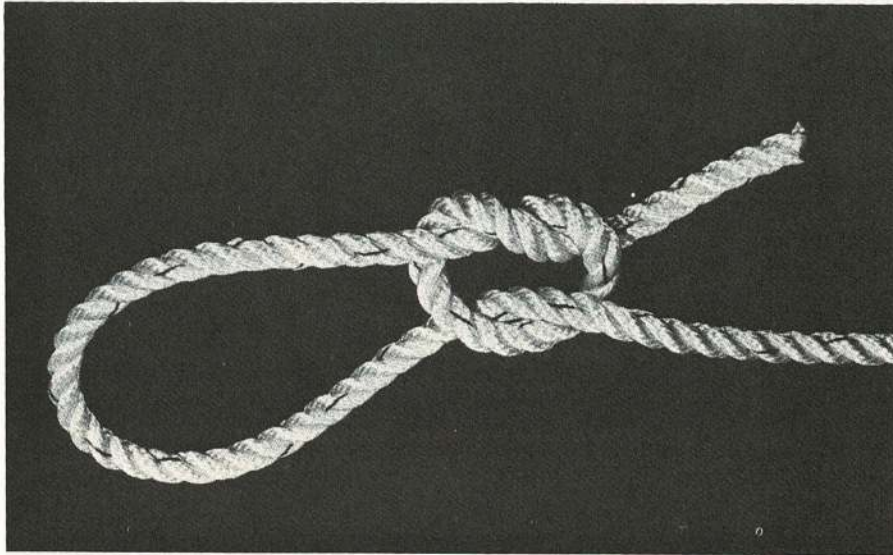

Fig 11 Overhand Slip Knot
12. If an overhand knot is tied around its own standing part, Fig 11, a useful slip knot is formed. A slip knot can be pulled tight against anything enclosed by it, such as a parcel or a hitching rail. An interesting variation of it is the slip knot halter tie which is used to tie a horse or other animal to a hitching pole or ring, Fig 12. Simply pass the running end of the halter around the hitching pole (or through the ring), bring plenty of rope back and tie an overhand knot around the standing part, but instead of pulling it through, leave the running end doubled — in the form of a bow. If the animal jerks or pulls against this knot the knot will tighten because of its slip knot's properties — but your jerk on the running end will instantly free it.